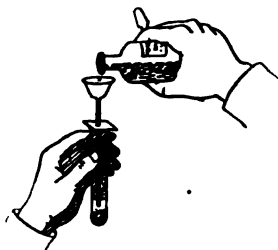

Fig. 43.
2. Cover the t.t. with paper, and pour through a thistle tube, which passes through the paper (Fig. 43), a few drops of sulfuric acid,  $\text{H}_2\text{SO}_4$ . If the action is not vigorous enough, pour in more acid (*avoid excess*), then remove the thistle tube, and watch the phenomena.